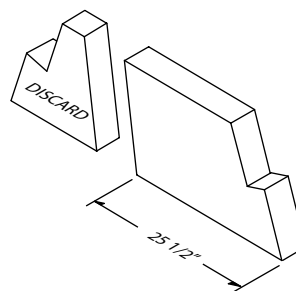

FIGURE 65
**Step 19:** Cut each of the two smoke dome top medium pieces, part 11 at an angle cut that is parallel to the un-cut end and so that its bottom length is  $25 \frac{1}{2}$ " (Figure 65).